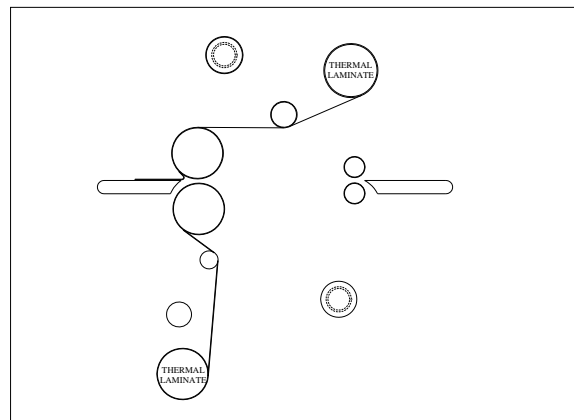

FIGURE 23
6. Pivot the table back to its feeding position while ensuring the threading card is on top of the feed table (Fig. 23).